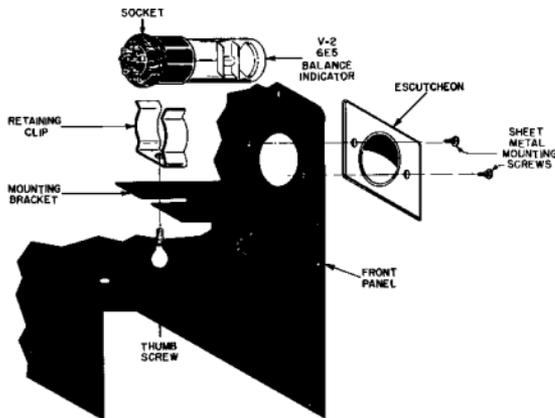

FIGURE 6. MOUNTING THE 6E5 (V-2)
(X) Figure 6 shows how to mount the 6E5 (V-2). Place the socket on the 6E5 and mount it behind the large hole in the front panel. Do